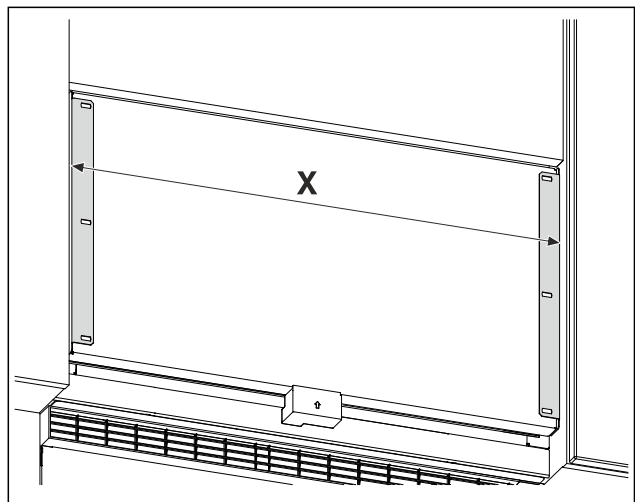

Fig. 25 Example illustration
- Measure the distance Fig. 25 (X) between the outer edges of the retaining brackets.